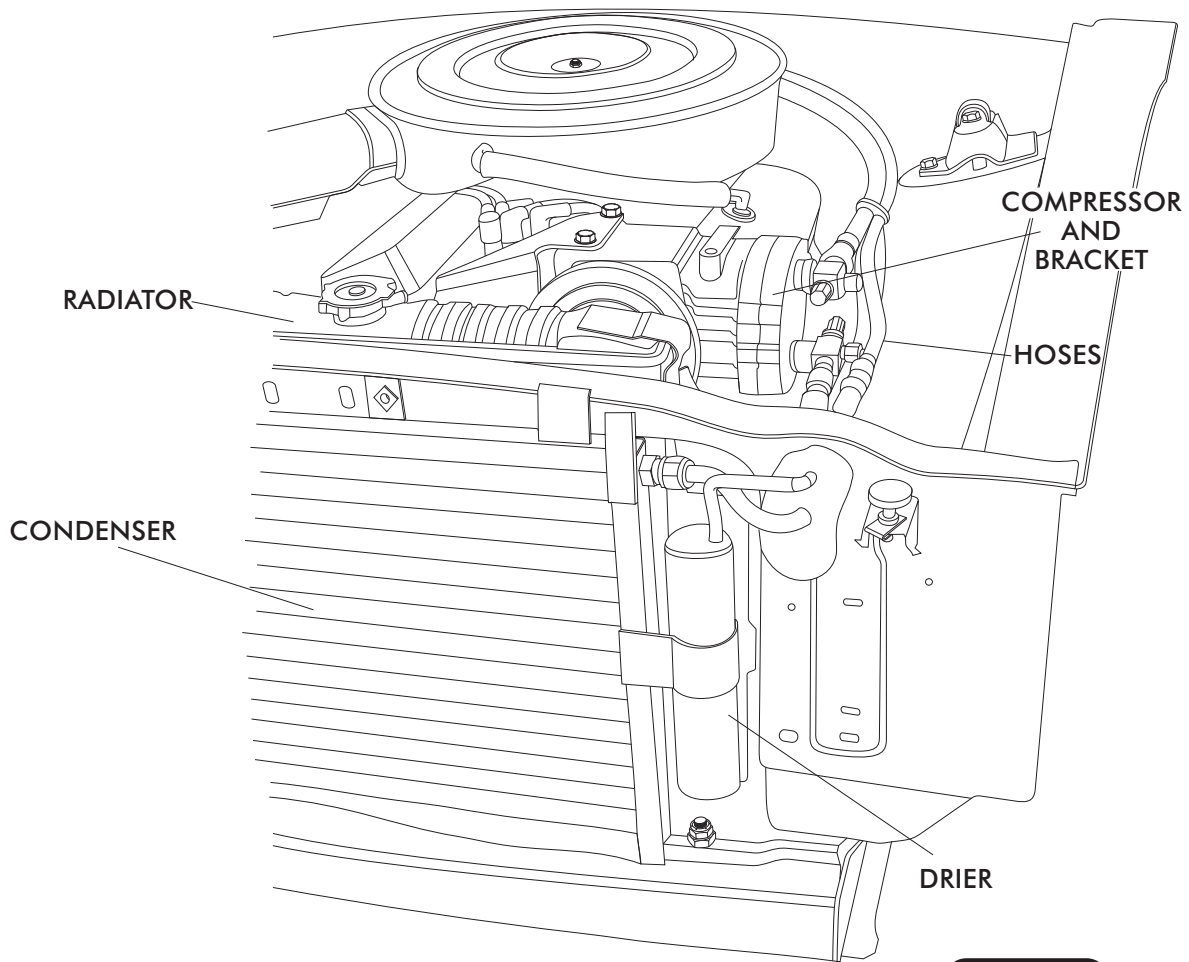

FIGURE 1
- OEM CONDENSER AND DRIER (DISCARD). SEE FIGURE 1 BELOW.
- OEM COMPRESSOR AND BRACKET (DISCARD). SEE FIGURE 1.
- OEM HEATER HOSES, A/C HOSES (DISCARD). SEE FIGURE 1.